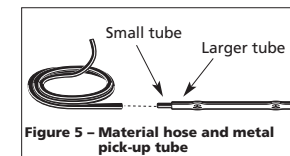

Figure 5 – Material hose and metal pick-up tube
8. Make sure the material hose is securely attached to the smaller tube (and does not touch the larger tube) of the metal pick up (see Figure 5).